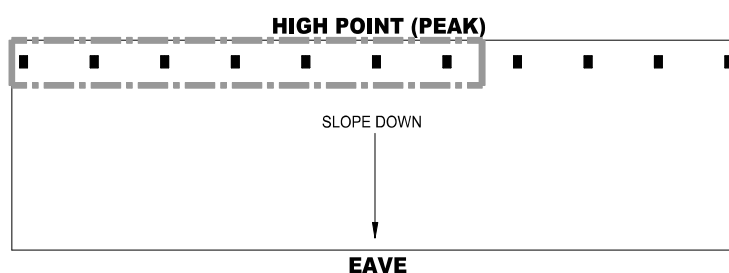

FIGURE 20A
- Calculate the most hydraulically demanding 7 contiguous DS sprinklers. See FIGURE 20A.